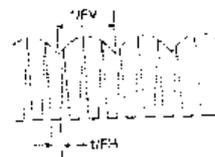

Figure 3-5 Collector of Q303 Output Pulse Correction Wave
2. The sawtooth wave is output from Pin IC302 and through C350 and R364 and to Pin 2 of IC601 (DC to DC circuit). It is output from Pin 6 of IC601 and after being in T603's second coil output, is added to horizontal B+ to provide pin-cushion and trap distortion correction. So, is created to perform amplitude modulation on the horizontal deflection output pulse, as shown in Figure 3-5.
The horizontal output circuit uses the switch operation of a transistor and a damping diode, and provides a sawtooth wave current to the deflection yoke. The horizontal deflection yoke is made up of the L value on the coil and resistance r inside the coil connected in series. Its resistance is extremely small, and the time constant (L/r) is extremely large. Because of this the voltage at the two terminals of the coil cause rapid variation in the current flowing in the coil still will slowly vary, creating a sawtooth current. The basic circuit and equivalent circuit are shown in Figures 3-5 and 3-7.